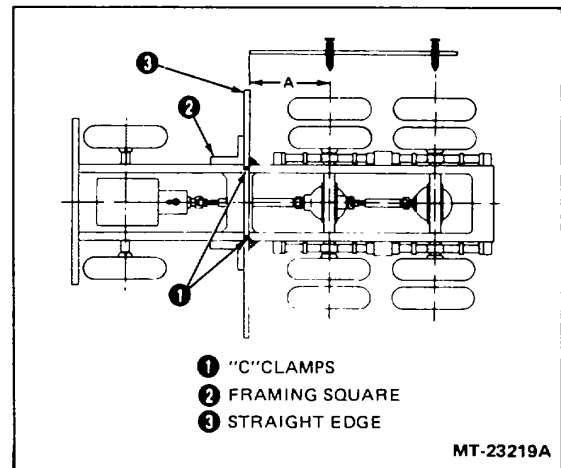

Figure 3 - Measure Dimension "A"
4. Measure distance between cord of plumb bob and pointer on forward rear axle of 6 x 4 vehicles or rear axle on 4 x 2 vehicles. Record dimension "A" as in Figure 3.